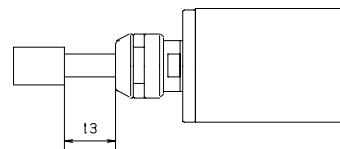

Fig.26
- (2) Do not exceed 13mm overhang for mounted grindstones. In case overhang must exceed 13mm reduce the motor speed in accordance with Fig.26 and Table 4.